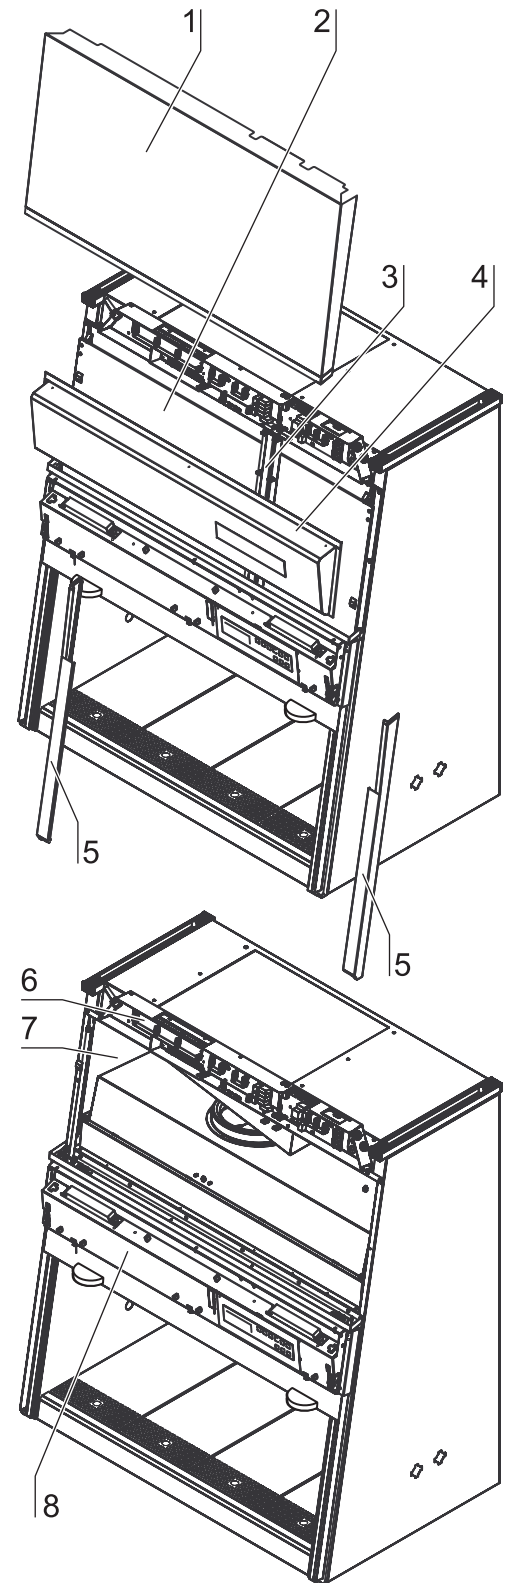

Fig. 5
- **Fig. 5:** Assembly operating panel with display, ballast units, switching contacts, and sample chamber illumination on light dome fitting panel [8]:
2. **Fig. 5:** Remove the left and right guide rails [5]. The bottoms of the rails are screwed to the device frame.
2. **Fig. 5:** Remove the three retaining screws at the upper splay of the front cover [1].
3. **Fig. 5:** Remove the cable from the cable terminals of the cable duct [3] and remove the cable duct.